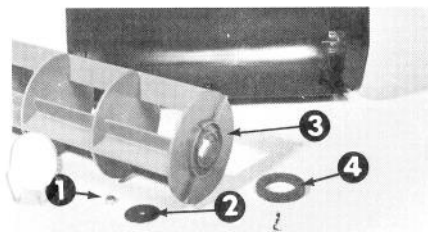

Figure 15
3. Remove the rotor and felt washer (Fig. 15).